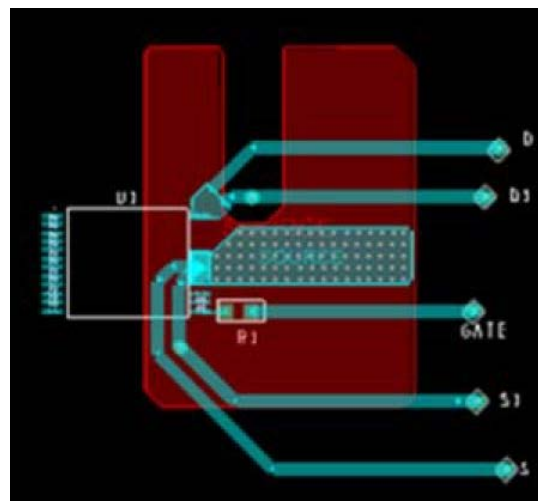

Figure 24. Thermal Resistance Test Conditions for PowiGaN Devices (INN3678C, INN3679C and INN3670C).
Testing performed on custom thermal test PCB as shown in Figure 24. The test board consists of 2 layers of 2 oz. Cu with the InSOP package mounted to the top surface and connected to a bottom layer Cu heat sinking area of 550 mm2.
4. Please see Figure 24.